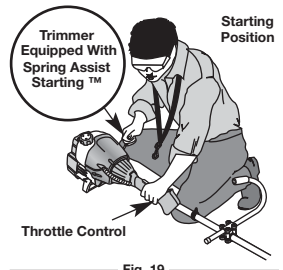

Fig. 19
WARNING: Avoid accidental starting. Make sure you are in the starting position when pulling the starter rope (Fig. 19). To avoid serious injury, the operator and unit must be in a stable position while starting. To avoid serious personal injury, ensure any Add-On being used is installed correctly and secure before starting the unit.
- Crouch in the starting position (Fig. 19), squeeze the throttle lock-out and throttle control, and pull the starter rope 5 times in a controlled and steady motion.